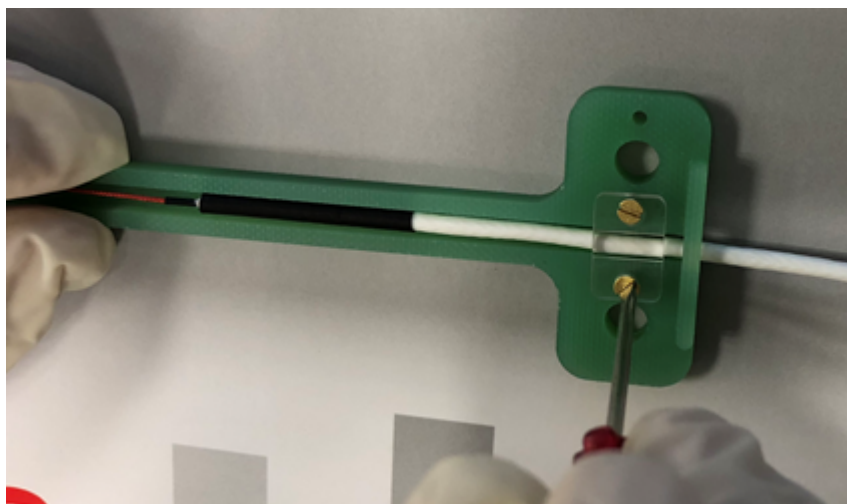

Figure 3.
Step 2: Slightly unscrew the two brass screws from the end plastic that serves for a fixation of the white probe cable (Figure 3), so that the white cable can be now carefully pushed forward the probe side for some 10-15 mm.